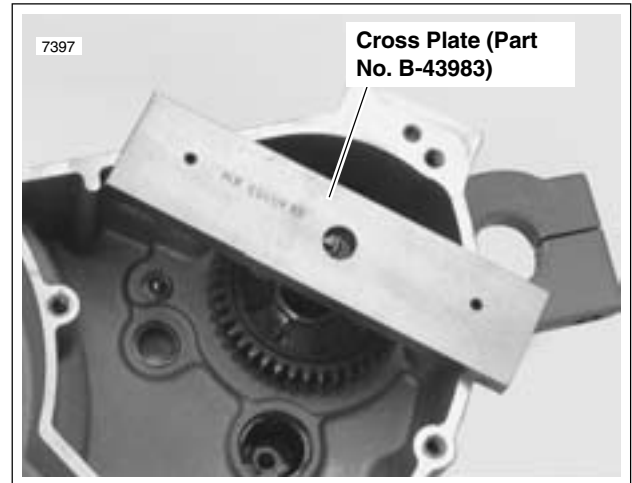

Figure 6-50. Cross Plate Mounting
2. See Figure 6-50. Remove main drive 5th gear. Use MAIN DRIVE GEAR REMOVER AND INSTALLER (Part No. HD-35316A). See 6.11 MAIN DRIVE GEAR.
1. Locate MAIN DRIVE GEAR REMOVER AND INSTALLER (Part No. HD-35316-A). See Figure 6-50. Place crossplate pins in appropriate holes in transmission case.